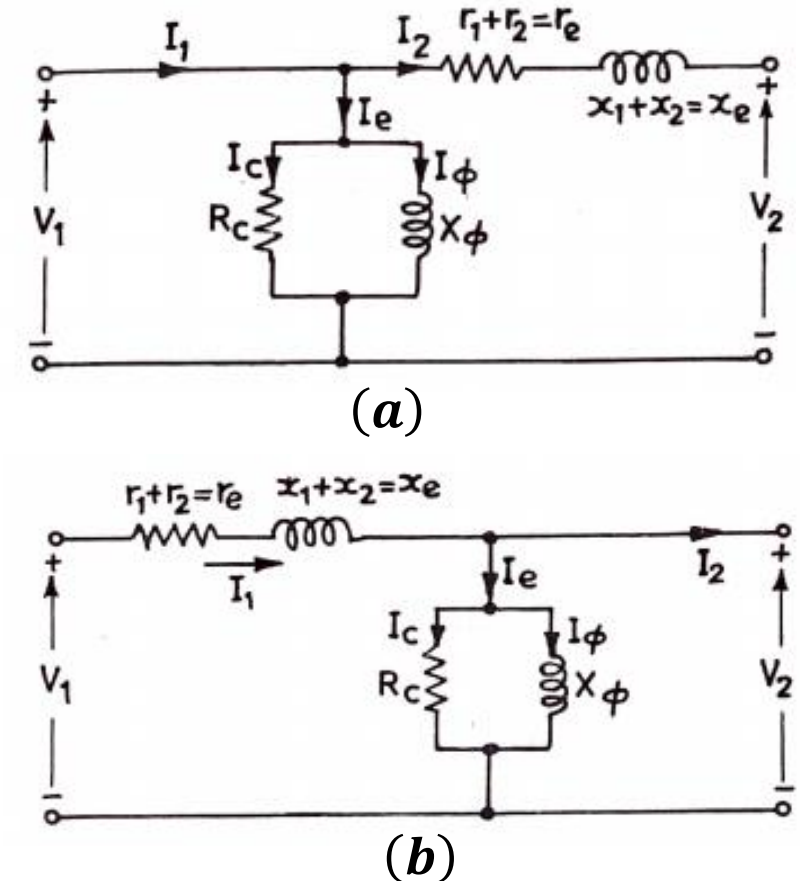

Fig. 8.17
- ✓ Thus the primary leakage impedance drop due to the exciting current, *i.e.*, $I_e(r_1 + jx_1)$ is neglected in **Fig. 8.17** (a), though it is not so actually.
- ✓ It is also be seen from **Fig. 8.17** (b) that I_e flows through r_2 and x_2 , whereas I_e does flow through r_2 and x_2 in the exact equivalent circuit.